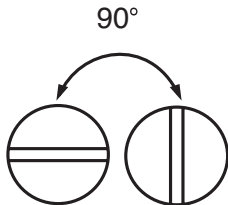

Fig 1
2. Double measurement method: This method involves performing two thickness measurements near a single spot rotating the ultrasonic sensor from 0 to 90° respectively, with respect to the split face (Fig.1). Take the smaller of the two indicated values as the thickness of the material.